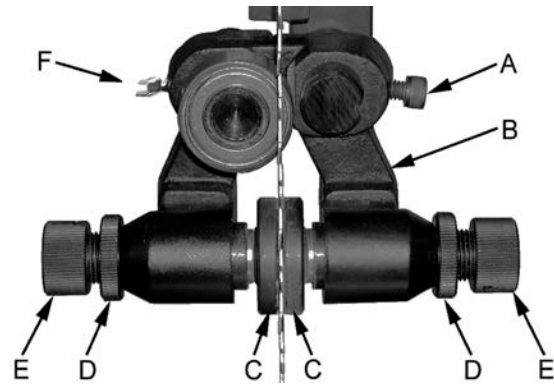

Figure 3
2. The blade guard has been removed in Figure 3 for photo purposes only.
3. Loosen the socket head cap screw (A, Fig. 3) and position the blade guide assembly (B, Fig. 3) so that the guides rest just behind the gullet of the blade teeth. Tighten the socket head cap screw.
4. Loosen lock nuts (D, Fig. 3).
5. Adjust guide knobs (E, Fig. 3) so guides (C, Fig. 3) rest lightly against the blade. Do not force the guides against the side of the blade. Tighten both lock nuts.
6. Adjust the blade support bearing so that it is 0.003" away from the back of the blade, about the thickness of a piece of paper. To make this adjustment loosen wing nut (F, Fig. 3) and slide the bearing and bearing post into position. Tighten wing nut.
**Note:** Blade support bearing should be adjusted so that the back edge of the blade overlaps the front face of the ball bearing by approximately 1/8". If adjustment is needed loosen wing nut (F, Fig. 3) and turn the bearing shaft. Tighten wing nut.